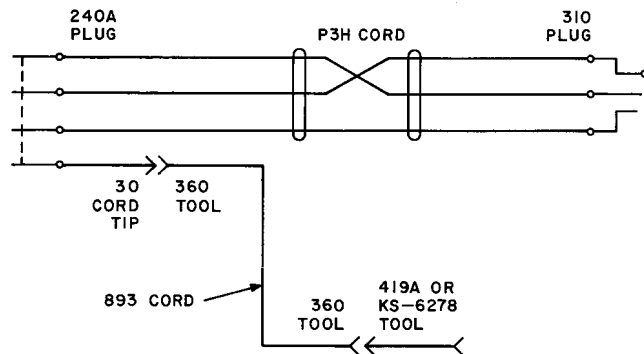

Fig. 1—Testing Cord
2.06 Patching cord, P3H cord, 10 feet long, equipped with one 310 plug and one 240A plug (3P2A cord) (the 240A plug to be equipped with a 30 cord tip). One 893 cord equipped with two 360 tools and one 419A or KS-6278 tool. Connect as shown in Fig. 1.
13	Connect 419A tool of 893 cord (Fig. 1) to sleeve wiper cord terminal at test jack. Note: In offices where the wiper cords do not terminate at test jack assembly, connect KS-6278 tool of 893 cord directly to the sleeve wiper.
14d	If No. 4 spring of test jack is connected directly to ground— Connect 419A tool of 893 cord (Fig. 1) to sleeve wiper cord terminal at test jack.
- 12 Connect 419A tool of 893 cord (Fig. 1) to sleeve wiper cord terminal at test jack assembly.
Connect 419A tool of 893 cord (Fig. 1) to sleeve wiper cord terminal at test jack assembly.